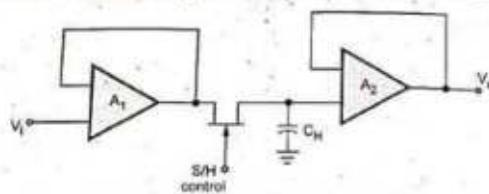

Fig. 6.5.3 Basic sample and hold circuits
- Fig. 6.5.3 shows the basic sample and hold circuit. Here JFET is used as a switch.